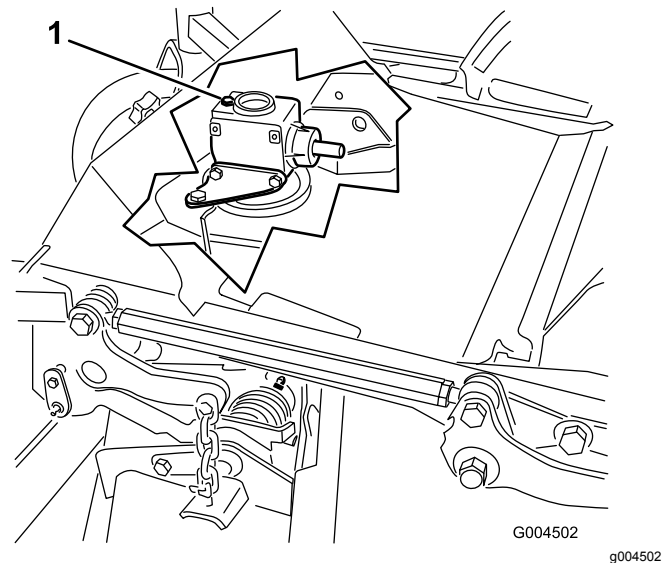

Figure 53
6. Remove the dipstick/fill plug from the top of the gearbox and make sure that the lubricant is between the marks on the dipstick (Figure 53).
6. Remove the dipstick/fill plug from the top of the gearbox (Figure 53).